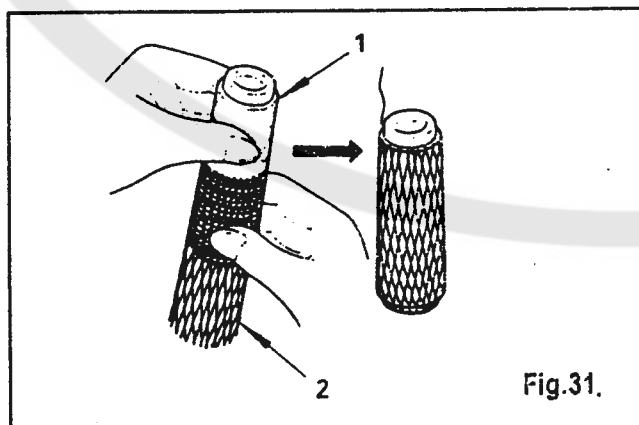

Fig.31.
When using synthetic threads that easily spill off the core (1), slip the anti-spill sleeve (2) furnished with the machine over the thread from the bottom of core (1) leaving the thread end to hang free at the top of anti-spill sleeve (2) as shown in Fig.31.